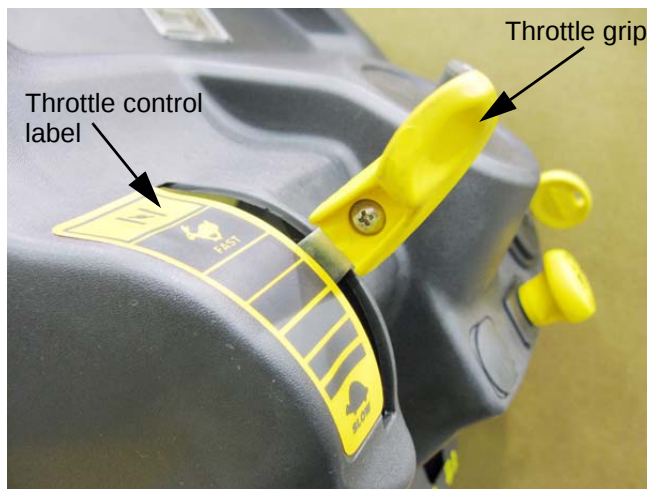

Figure 4.42
5. Use a phillips head screwdriver to remove the throttle control grip. See Figure 4.42.